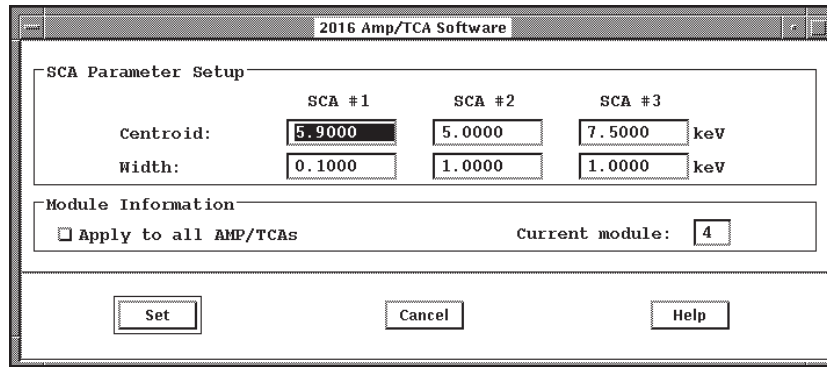

Figure 11 Setting the SCA Parameters
2. The TCA setup proceeds as before. When the screen in Figure 11 appears, the SCA window values can be entered for the energy regions of interest on a channel by channel (or Apply to All) basis.